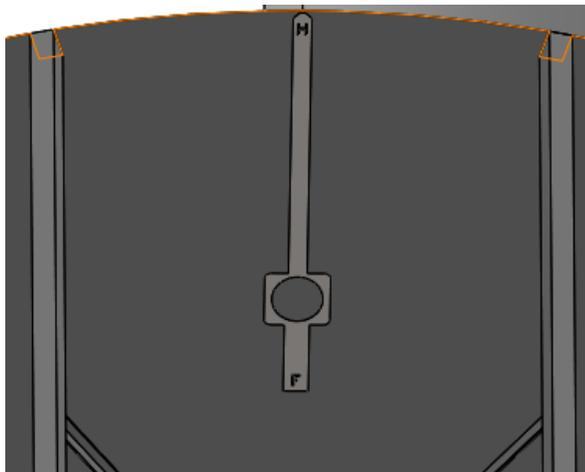

Figure 3.4.1b: Inlet Hole Template
- See Figure 3.4.1b, on the outside of the bin, use supplied INLET HOLE TEMPLATE. Then use a marker to mark the large 8" hole. Don't drill small mount holes at this time.